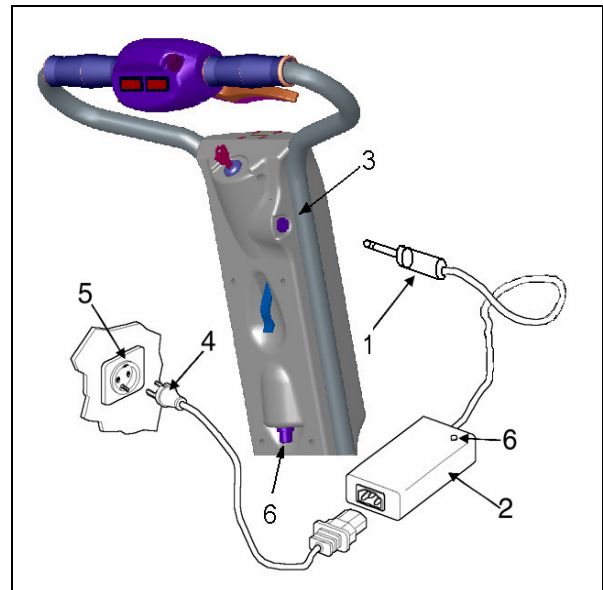

Fig 18
2. Plug the charger into the scooter by inserting the jack plug end of the charger lead into the socket on the right hand side of the tiller (fig 18 1&3).